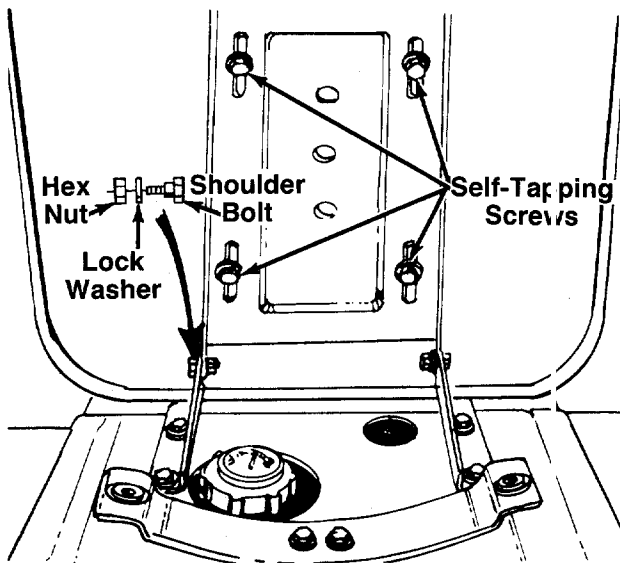

FIGURE 3B.—Models 723, 728, 733, 738, 743, 748, 753 and 758
2. **Models 723, 728, 733, 738, 743, 748, 753 and 758:** Place the seat in position against the seat brackets. Secure each side of seat with shoulder bolts, lock washer and hex nut. Crown side of washers should be against the head of the bolt and the nut. See figure 3B.